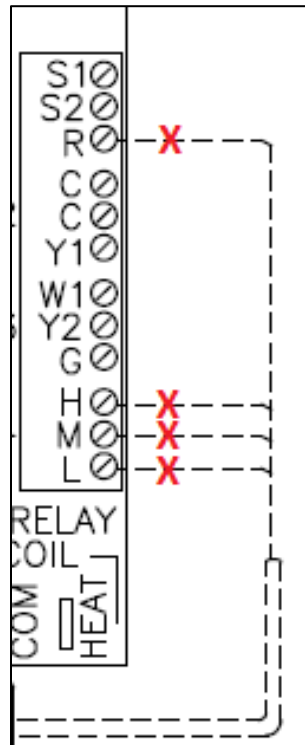

Figure 11 – Removing screw terminal wires (example)
7. Remove screw terminal wires (see Figure 11)